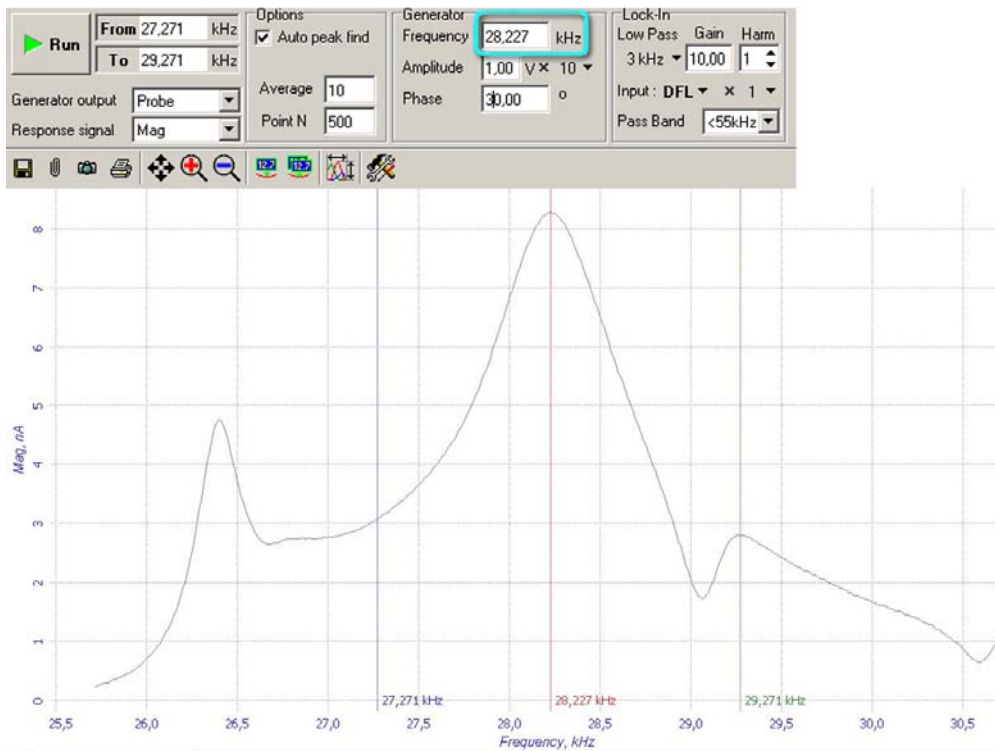

Fig. 1-6
- finally, the frequency response of **Mag** signal will be plotted near the maximum (Fig. 1-6);